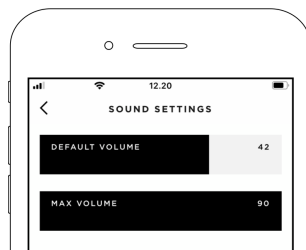

Figure 3.6: The default start-up volume and maximum volume for third-party sources can be adjusted in the Sound Settings display.
*The volume cannot be increased higher than the “Maximum Volume”, set in the “Sound Settings” screen (Figure 3.6)*
The “Sound Settings” display, shown in Figure 3.6, gives you the opportunity to adjust the default (start-up) volume setting used for third-party sources. You can also adjust the maximum volume if you wish to avoid accidentally playing signals at extreme levels.